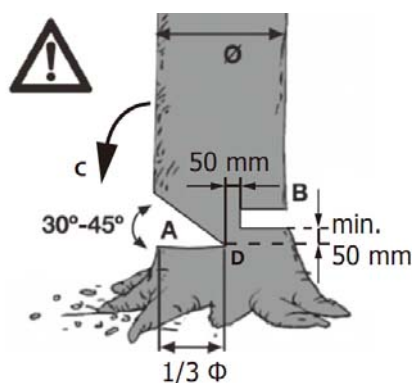

Fig17
Making the felling notch (Fig. 17)
Cut a notch (A) at right angles to the fall direction to a depth of $\frac{1}{3}$ of the tree diameter as shown in Fig. 17. First make the lower horizontal felling notch (A). This prevents the saw chain or the guide rail from becoming trapped when the second felling notch is made.